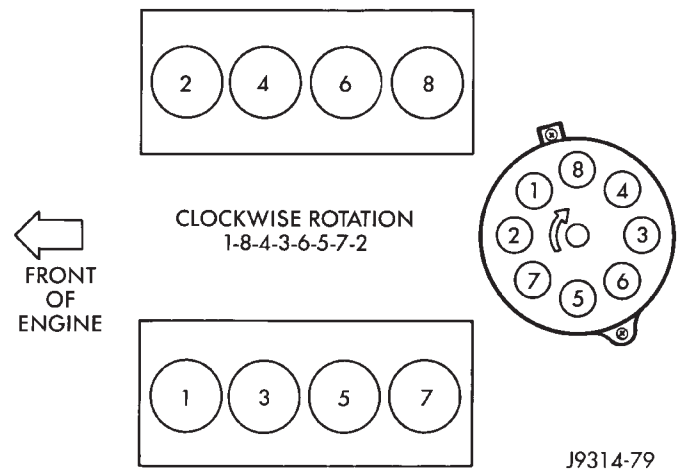
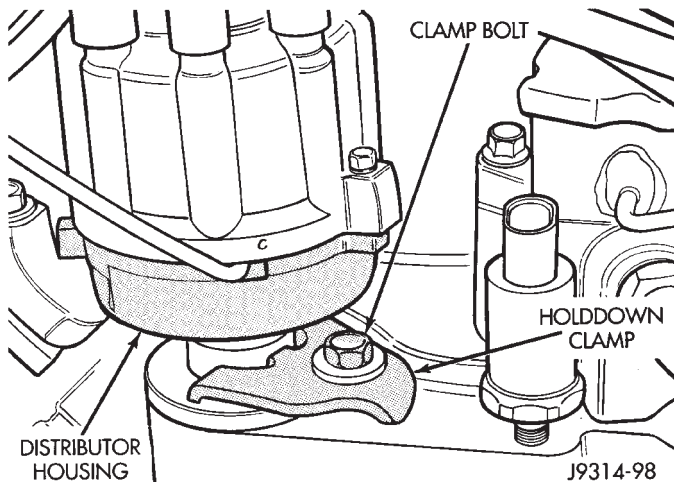

Fig. 19 Engine Firing Order—5.2L Engine
Fig. 22 Distributor Holddown Clamp—5.2L Engine
- (1) Disconnect negative battery cable at battery.
- (2) Remove coil high-tension cable and all spark plug cables at distributor cap. Note and mark position of cables (Fig. 19) before removal.
- (3) Remove distributor cap from distributor (two screws).
- (4) Mark the position of distributor housing in relationship to engine or dash panel. This is done to aid in installation.
(8) Disconnect camshaft position sensor wiring harness from main engine wiring harness.
(9) Remove distributor rotor from distributor shaft.
(10) Remove distributor holddown clamp bolt and clamp (Fig. 22). Remove distributor from vehicle.
(7) Tighten clamp holddown bolt (Fig. 22) to 22.5 N•m (200 in. lbs.) torque.
(8) Connect camshaft position sensor wiring harness to main engine harness.
(9) Install distributor cap. Tighten mounting screws.
(10) Install spark plug cables in correct firing order (Fig. 19) to distributor cap. Be sure all spark plug cables are firmly connected into distributor cap towers.